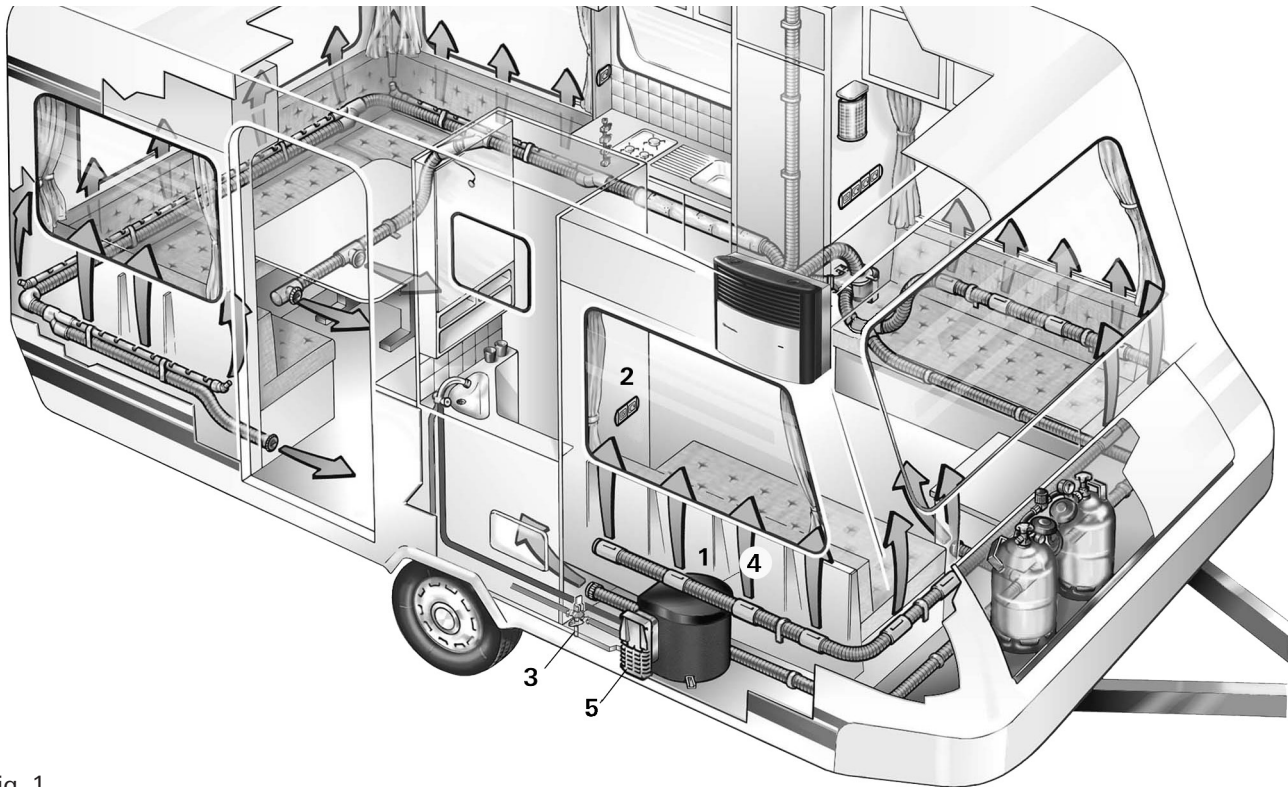

Fig. 1
- Danger** – Failure to operate the P&T safety valve (Fig. 1 - 4) at least once every six months may result in the water heater splitting. Continuous leakage of water from the valve may indicate a problem with the water heater!